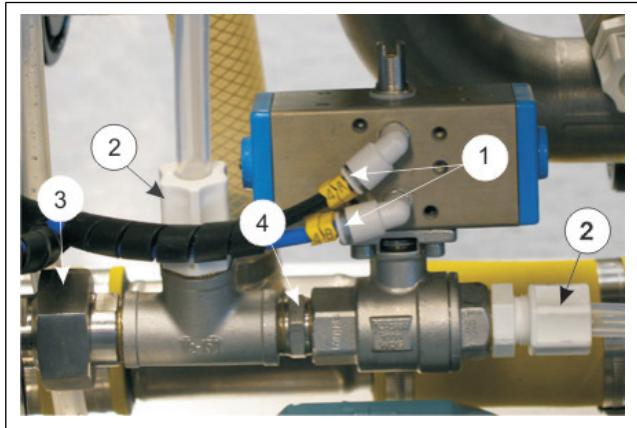

Fig. 8. Replacing the 2-way valve and actuator.
2. Detach the air tubes (Fig. 8, part 1). Make sure you have the order of the air tubes right before detaching them from the valve!